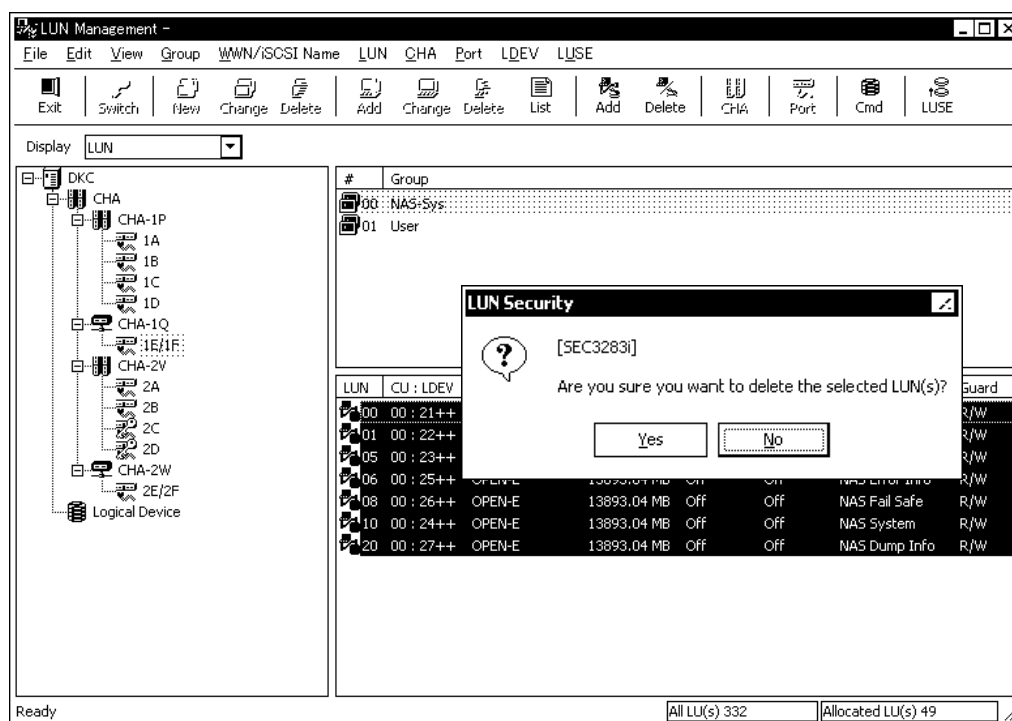

Figure 11.1.4 Main Window
When the port of “NAS” in the tree view is selected (CL) and the Display is set as “LUN”, “NAS-Sys” of the Group#00 and “User” of the Group#01 are displayed in the upper right list. Select “NAS-Sys” of the Group#00. (In an example shown in Figure 11.1.4, select the NAS port, 1E/1F from the tree diagram.)
- ① Select (CL) “NAS-Sys” of the Group#00 from the upper right list.
- ② Select (CL) a LUN from the lower right list.
- ③ Select (DR) [Delete] from the [LUN] menu in the Main window (Figure 11.1.4).
- ④ Since a message asking for a confirmation is displayed, select (CL) the [Yes] button.
- ⑤ Information on the LUN that has been selected from the lower right list is deleted.